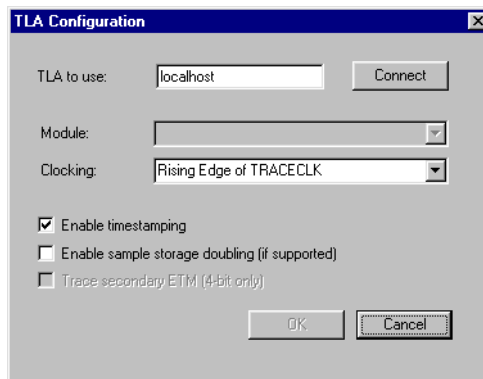

Figure B-23 Dragonfly TLA Configuration dialog box
10. Click on **Configure...** to display the Dragonfly trace capture configuration dialog box (Figure B-23 on page B-32).